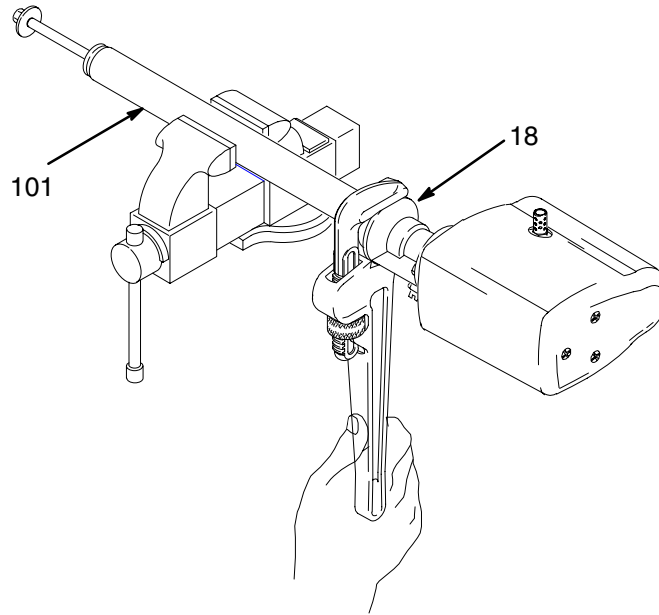

Fig. 6
3. Place the pump in a vise with soft jaws, with the jaws on the cylinder (101). Unscrew the intake cylinder (110) from the pump cylinder (101). See Fig. 6.
3. Use a pipe wrench on the lower part of the outlet housing (18) to securely tighten the motor (1) to the cylinder (101). See Fig. 6.